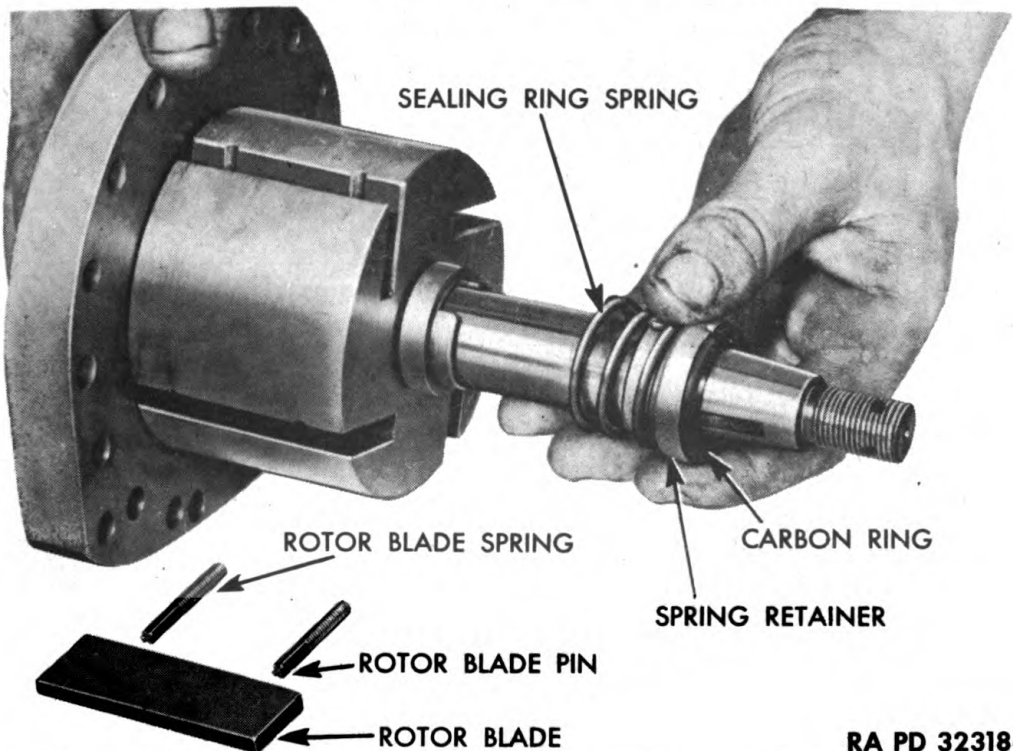
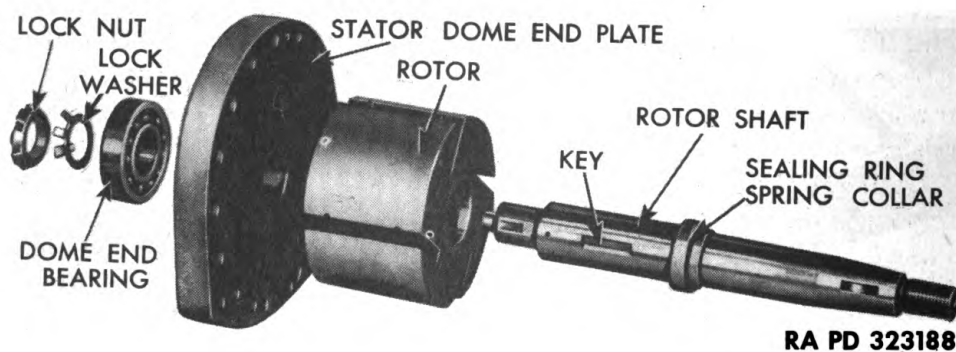

Figure 190 — Removing Sealing Rings, Spring, and Spring Retainer
Figure 192 — Stator Dome End Plate and Rotor Shaft Disassembled
(11) DISASSEMBLE UNIT CONSISTING OF STATOR DOME END PLATE, BEARING, ROTOR SHAFT, AND SHAFT SEALING PARTS (fig. 192). Remove all blades, springs, and pins from rotor. Pry between sealing spring coils, all around, and slide sealing ring retainer with rubber ring and carbon ring off rotor shaft (fig. 190). Carbon ring is brittle
(2) **ASSEMBLE UNIT, CONSISTING OF STATOR DOME END PLATE, BEARING, AND ROTOR SHAFT** (fig. 192). Press dome end bearing on rotor shaft, and install retaining lock washer and nut. Tighten nut securely, and bend lock washer to engage notch in nut. Insert shaft through hole in stator dome end plate, and press bearing into place.
(6) **PLACE ROTOR SHAFT SEALING PARTS ON SHAFT** (fig. 190). Slide sealing spring, retainer, rubber ring, and carbon ring on shaft in their respective order, with the spring against the spring collar. Make sure the lugs on the sealing retainer line up with the slots in the carbon ring.